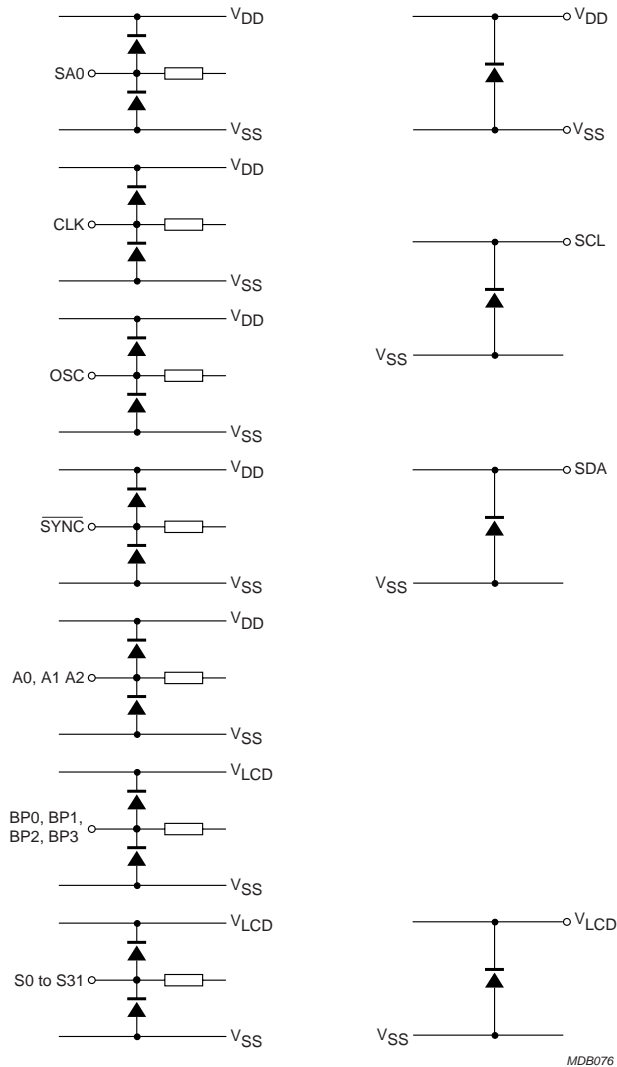

Fig.21 Device protection diagram.
- When tested, I²C pins SCL and SDA have no diode to V_{DD} and may be driven according to the V_{I2} limiting values given in Chapter 8. Also see Fig.21.